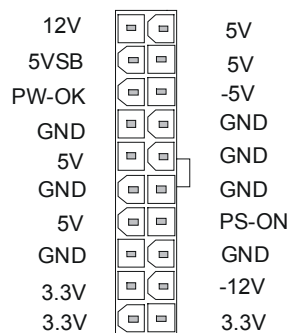

FIG 1
1. Connect the 20 pin connector to the ATX power connector. See FIG. 1.